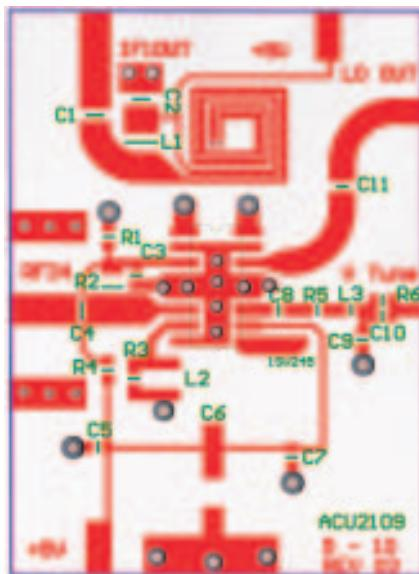

Figure 19: ACU2109 Evaluation Board Top View
- (1) Case temperature is 15 °C higher than Ambient Temperature, when Ambient Temperature is ≤ +65 °C, using PC Board Layout shown in Figures 19 - 20.
(1) Case temperature is 15 °C higher than Ambient Temperature, when Ambient Temperature is ≤ +65 °C, using PC Board Layout shown in Figures 19 - 20.
(1) As measured on ANADIGICS Evaluation Board shown in Figures 19 - 20.
(2) 138 channels, 0 dB tilt, +7 dBmV flat
(3) 138 channels, -10 dB tilt, +7 dBmV at 55.25 MHz
(4) As measured in ANADIGICS test fixture, using Anaren 3 dB 180° coupler (part no. 30055) and external bias-tees.
(7) At 250 kHz comparison frequency, 3 kHz loop bandwidth
(8) Case temperature is 15 °C higher than Ambient Temperature, when Ambient Temperature is ≤ +65 °C, using PC Board Layout shown in Figures 19 - 20.